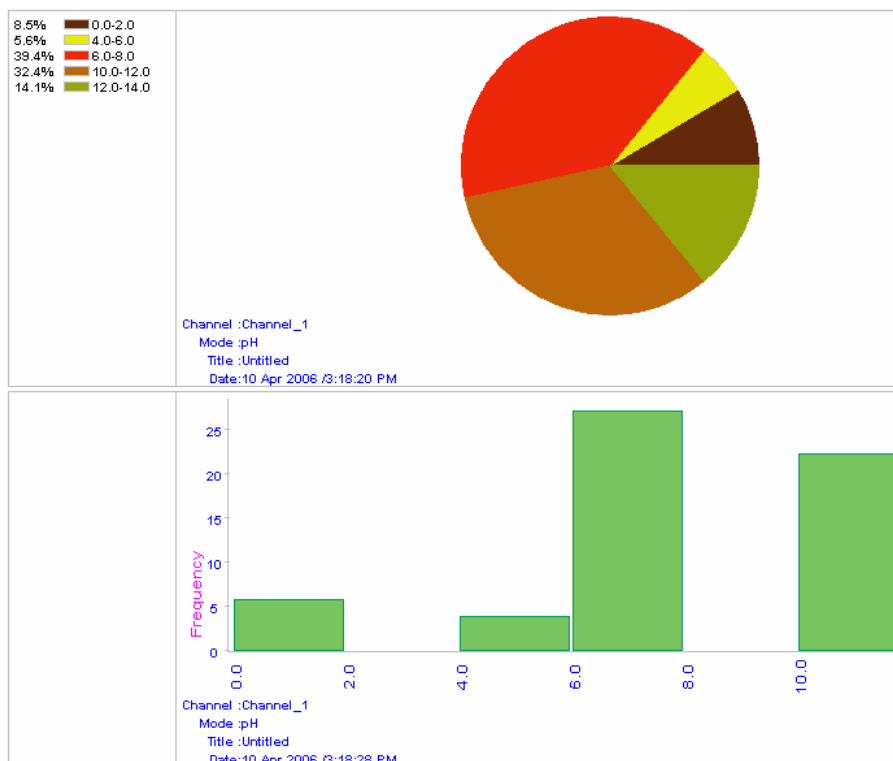

Figure 38 : Pie Chart & Histogram
9. Click **OK** to conform your selections. The system generates the graphical report based on the selections you made. (Figure 38). The new graphical report is added to **Available Reports** list. System notifies you if there is no sufficient or matching data available in the CyberComm for the selected channel/parameter or data selection criteria.